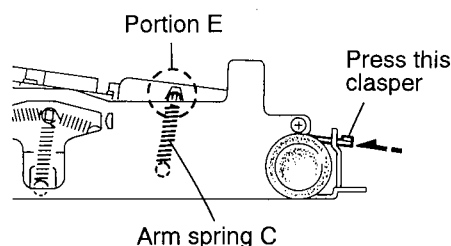

Fig. 4-20
11. From the right side of the CD mechanism assembly, remove only the portion E of the arm spring C beside the loading motor (See Fig. 4-20).
3. Hang the arm spring C on the portion E as shown in Fig. 4-20.